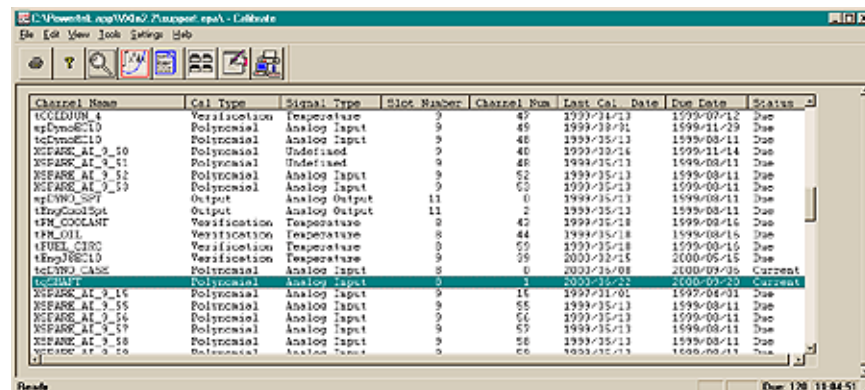

Figure 3
| Figure 3 Calibrate Screen | 4 |
- 107 On the "Calibrate" screen, scroll up or down the "Channel Names" until "tqSHAFT" appears. See Figure 3. Double click on "tqSHAFT".